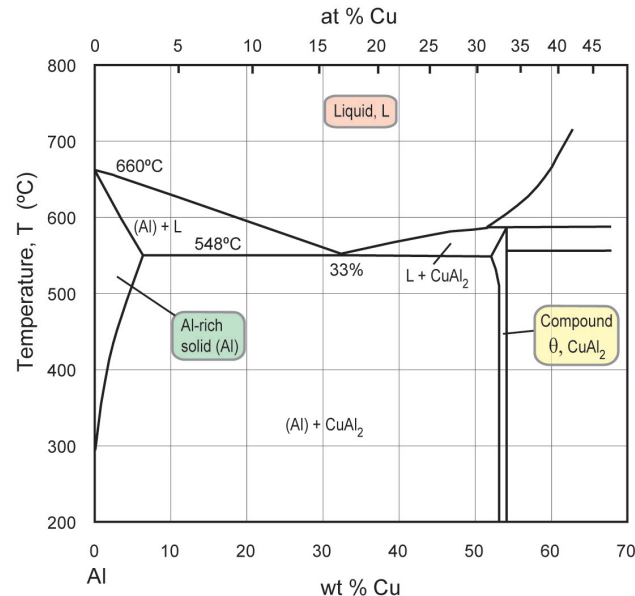

Figure 13: Phase diagram for part of the aluminium–copper Al-Cu system.
22. Use Figure 13 to answer the following: